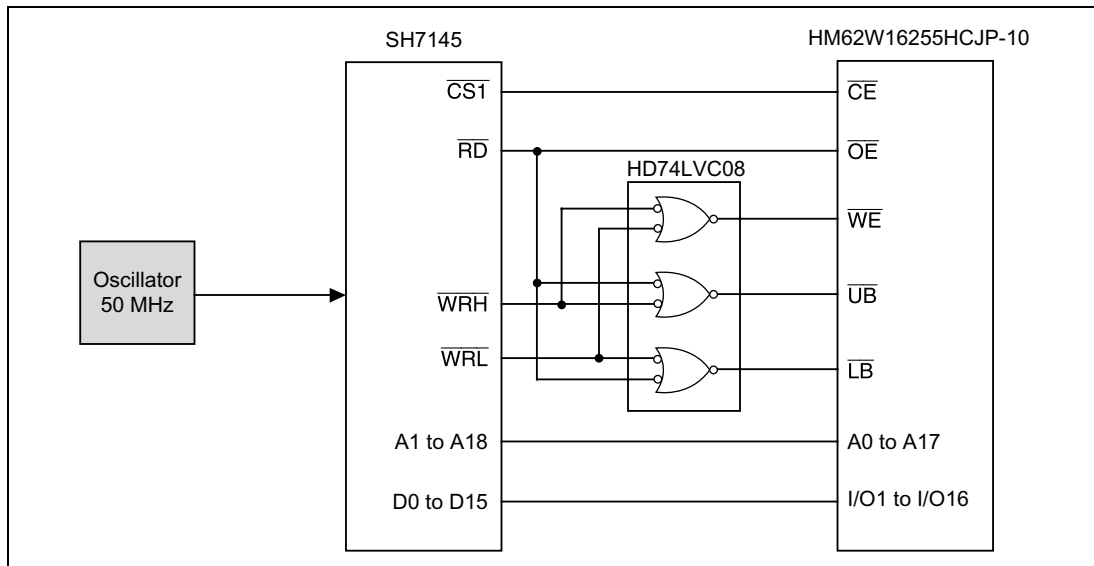

Figure 2.7 SH7145 and HM62W16255HCJP-10 Connection Block Diagram
(1) SH7145 mode 2 (on-chip ROM-enabled expansion mode) is used to interface with 4 Mbits (256 kbits × 16) of SRAM (HM62W16255HCJP-10) as shown in figure 2.7.